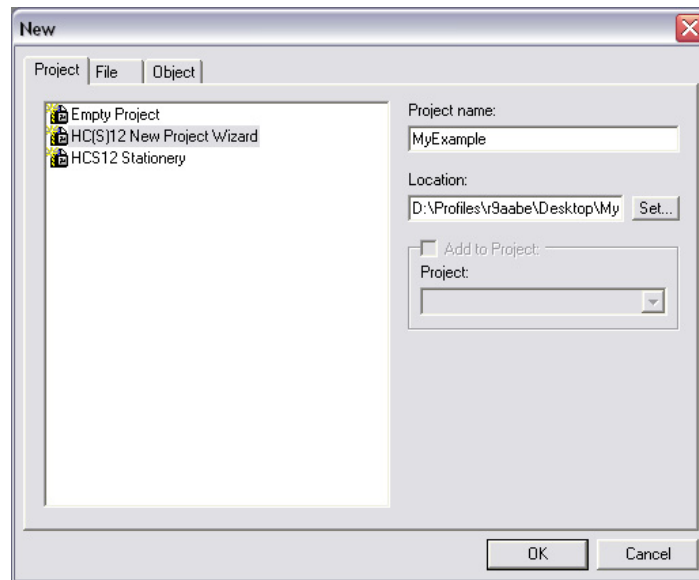

Figure 1. New Window
- a. From IDE main menu bar, select: File> New; a new window will appear (see Figure 1)